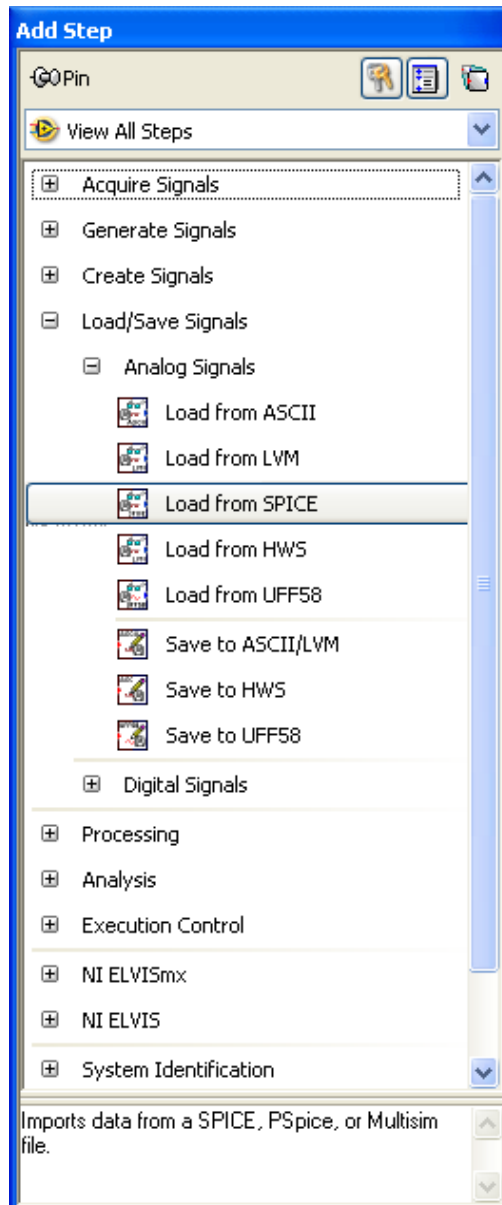

Figure E4-3. Add Step Menu
2. Click on the “+Add Step”, from the menu select **Load/Save Signals»Analog Signals»Load from SPICE**. See Figure E4-3 for location of the step.